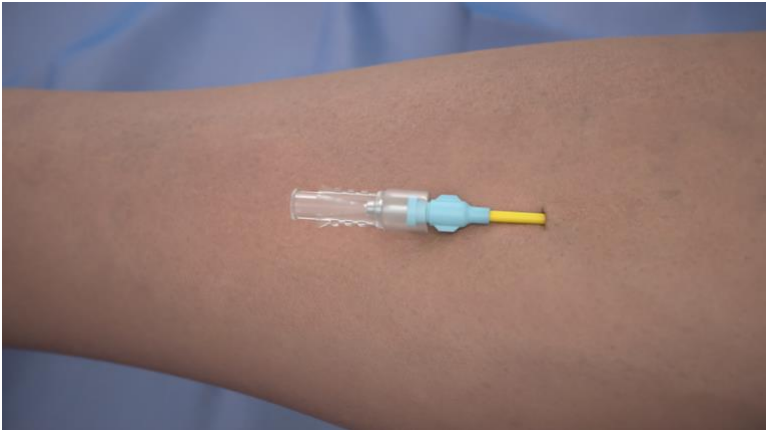

Figure 5
7. Remove the introducer needle stylet. (Figure 5)